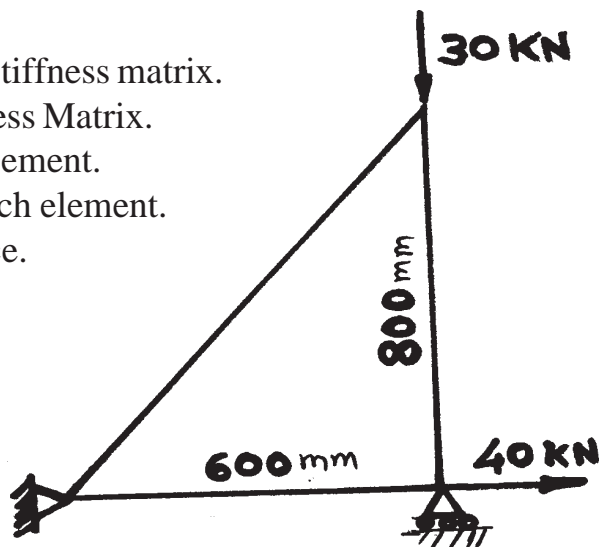

Figure 2, Q 5(b)
- Q5)** A pin jointed structure is shown in Figure 2. [18]
- b) A three bar truss is shown in figure 2. Modulus of elasticity of the material is $2 \times 10^5 \text{ N/mm}^2$. The cross sectional area of each element is 50 mm^2 . [12]